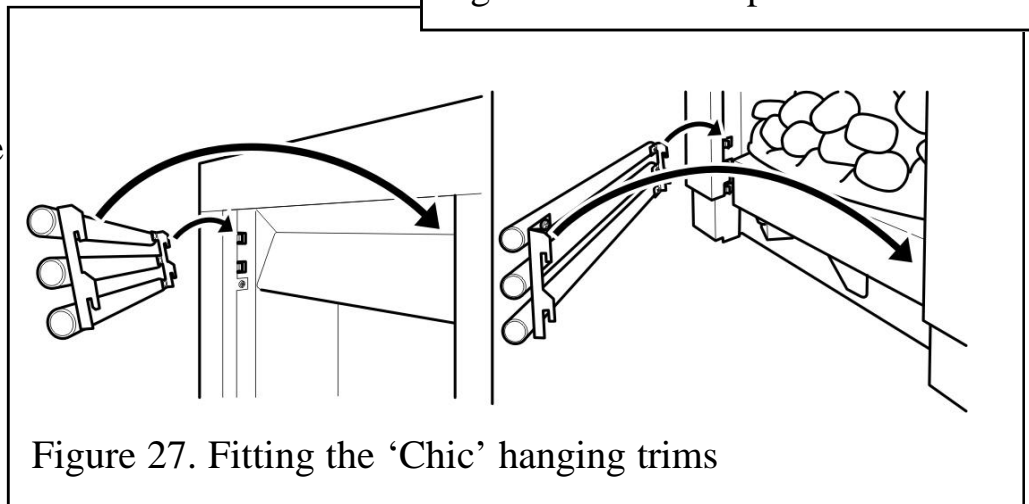

Figure 27. Fitting the 'Chic' hanging trims
5. Supplied in the fascia pack are two tubular trim sets. Hang one set at the top of the fascia and the other at the bottom (See figure 27).